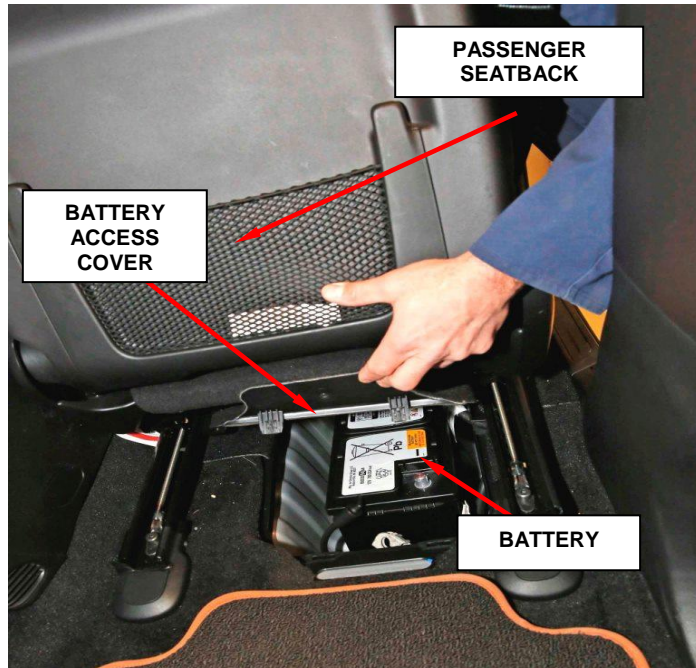

Figure 1 – Battery Access
2. Open the battery access cover located under the passenger front seat and disconnect the negative battery cable (Figure 1).